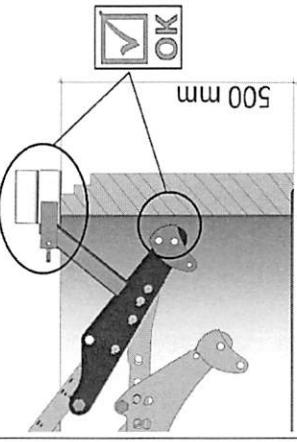

Fig. 3
- Fig. 3 shows a manhole ring with a minimum total height of 250 mm ("10") with "adaptor kit for SVZ-uni" (4400.0079) fitted correctly.